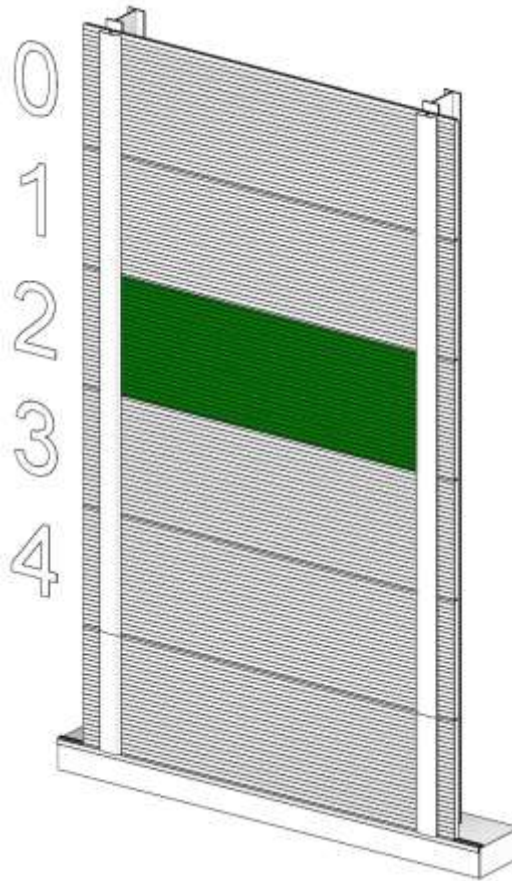

Fig. 13.10
STEP 13. Screw back all the flashings (Figure 13.10).